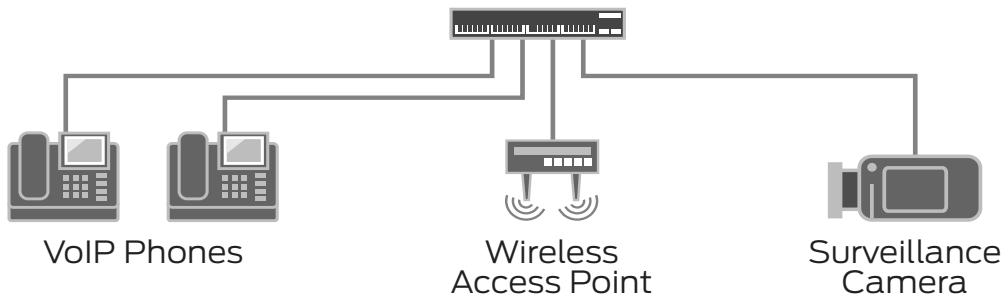

Figure 5.5 Powered Devices (PD) Connected to an EX4200 Switch
ment for higher power level of 30 watts of power at the output from PSE. This power is utilized by a connected powered device (PD) such as VoIP phones, wireless access points, and IP-based video cameras as shown in Figure 5.5.